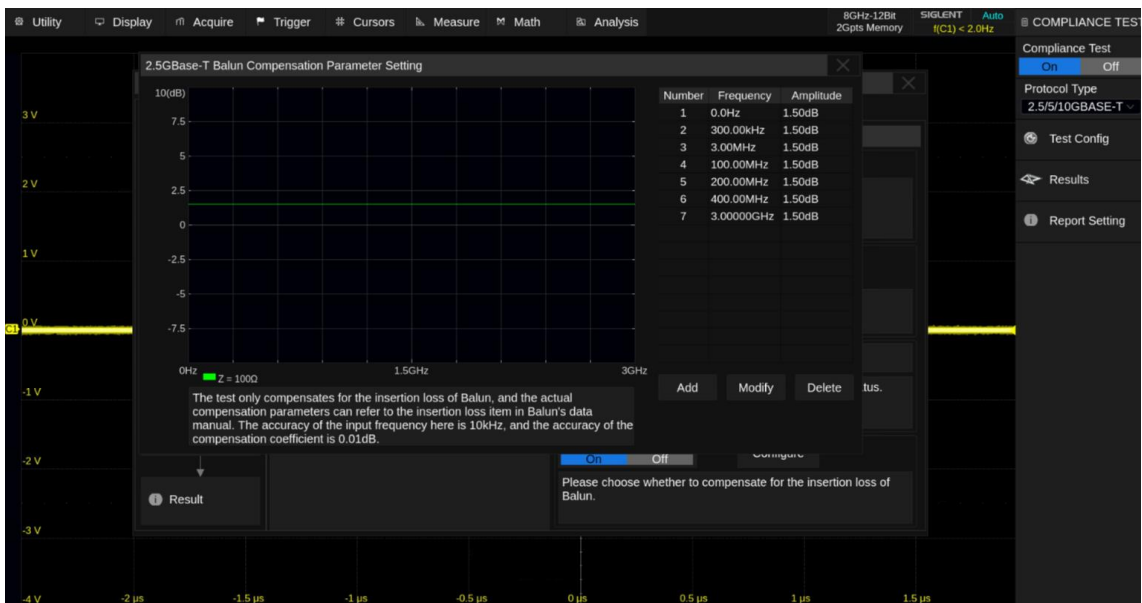

Figure 4-11 Balun Compensation Configuration Interface
- ◆ Settings: Click **Configure** to enter the balun compensation interface, as shown in Figure 4-11. You can add/modify/delete insertion loss at different frequencies. Up to 50 points can be added. Because the balun has its own insertion loss and return loss, which will affect the test results, these losses need to be compensated.
- ◆ Settings: Click **Configure** to enter the balun compensation interface, as shown in Figure 4-11. You can add/modify/delete insertion loss at different frequencies. A maximum of 50 points can be added.
- ◆ Settings: Click **Configure** to enter the balun compensation interface, as shown in Figure 4-11. You can add/modify/delete insertion loss at different frequencies. Up to 50 points can be added.